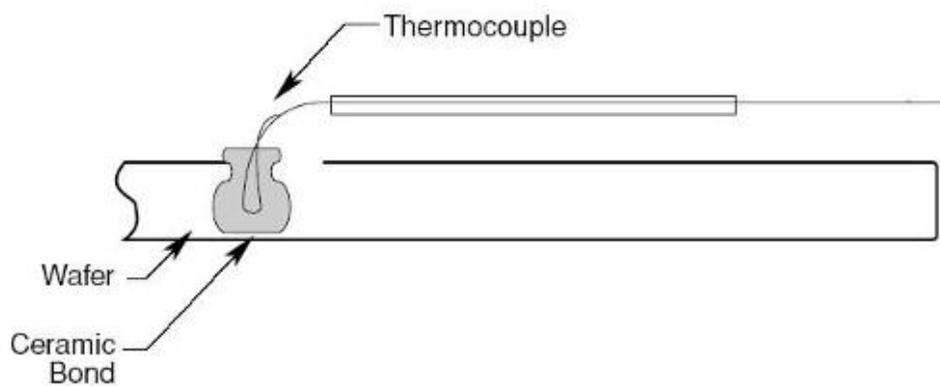

Figure 9-5: *Thermocouple Wafer Assembly*
- **TC wafer assembly:** This assembly is a type K chromel-alumel thermocouple, which is cemented to a wafer. The cement used is a sodium-free ceramic cement. See Figure 9-5. Typically, the TC wafer is used for the calibration of the pyrometer.
The TC wafer assembly (Figure 9-5) has a thermocouple embedded in a wafer.